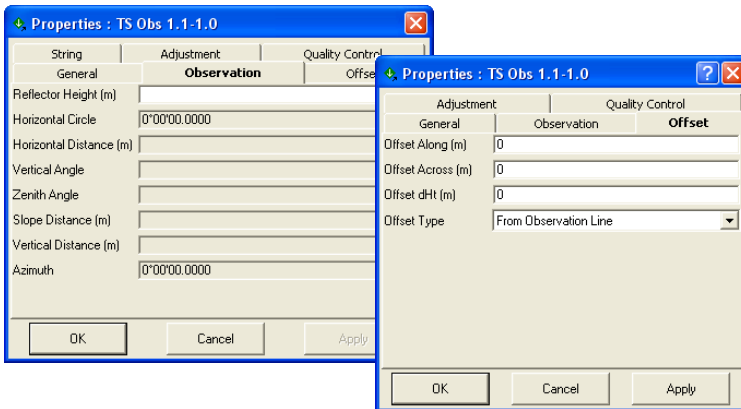

Figure 5-103. Observation and Offset Properties
3. View or edit *Observation* tab fields. Edit *Reflector Height* and *Azimuth* fields as needed (Figure 5-103). Other fields depend on the selected Job Configuration option.
4. View or edit *Offset* tab fields for editing offsets and selecting the offset Type (Figure 5-103).